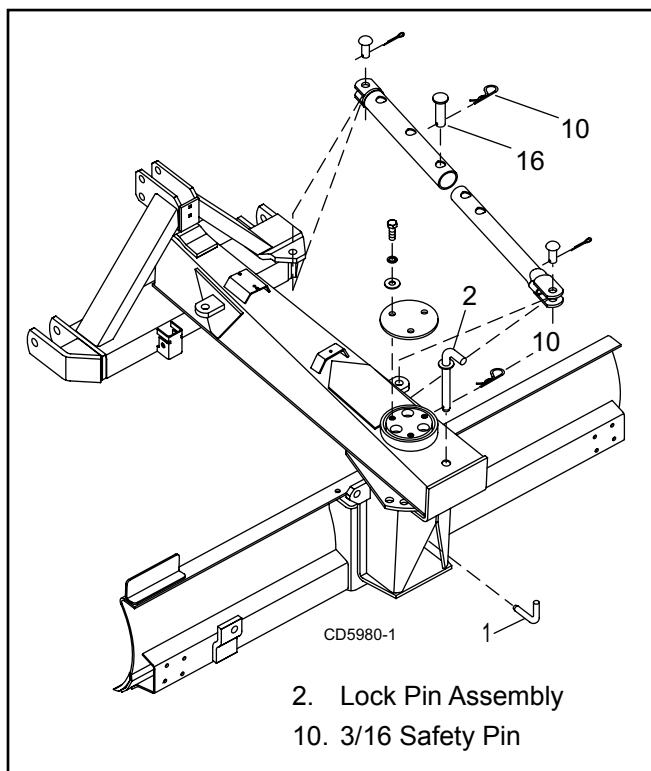

Figure 2. Mechanical Configuration Assembly
2. Mechanical – Remove the lock pin (2), Figure 2, and rotate it counter-clockwise to the desired position and replace pins.